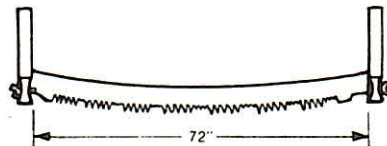

Fig. 18—Two-Man Saw
14.01 The two-man saw is intended for cutting up trunks and felling trees. Although still available, this saw is seldom used because of the availability of gasoline powered saws. The two-man saw consists of a medium width 6-foot commercial steel blade provided with "Champion" teeth. Handles are not furnished with this saw and should be ordered separately. See Fig. 18. The blade should be covered with a guard at all times when not in use.